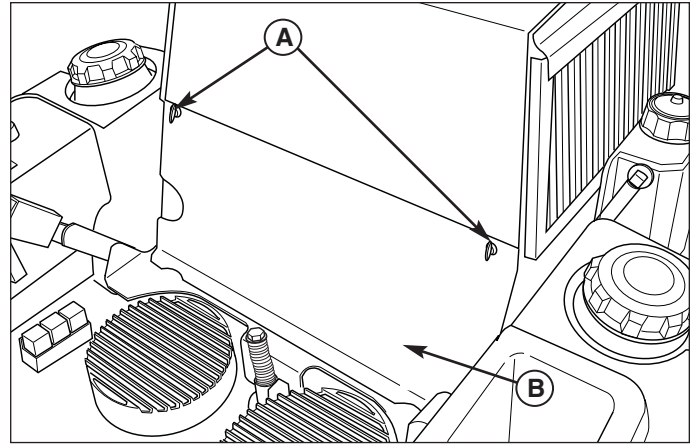

Figure 13. Remove Engine Access Panel
2. Tip the seat forward and loosen the thumb bolts (A, Figure 13) that secure the engine access panel (B). Remove the engine access panel.
2. If the coolant level is insufficient, remove the cap (B) from the reservoir and add coolant to the "H" mark.
4. Reinstall the engine access cover and tighten the thumb screws (see figure 13).